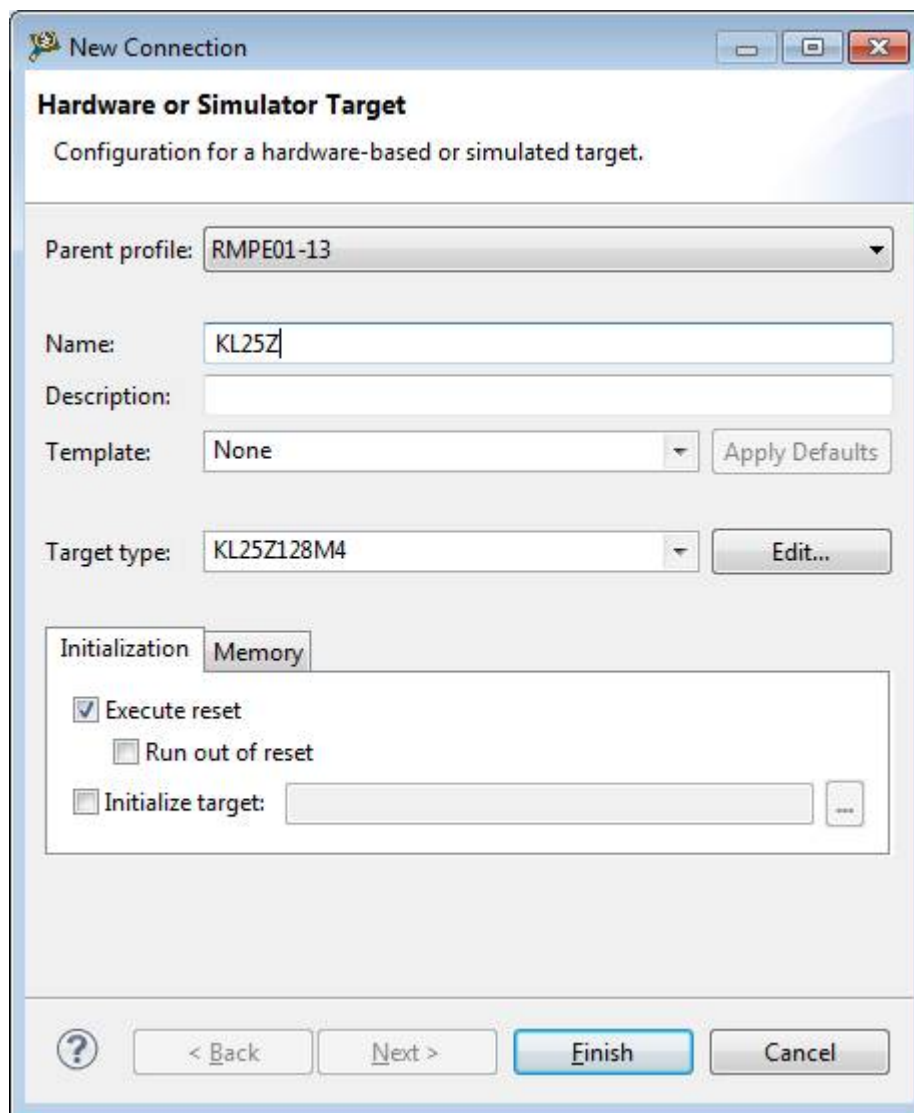

Figure A-5. Selecting CodeWarrior Target type
7. Click the selector on the **Target type** field, see Figure A-5.
8. Check the “**Execute reset**” check box, (see Figure A-5) then enter a value in the name field and click **Finish**.